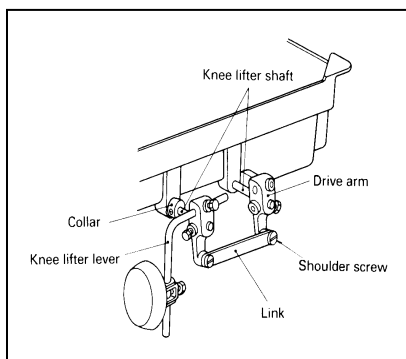

Fig.5
8、Installing the knee lifter (Fig.5) :